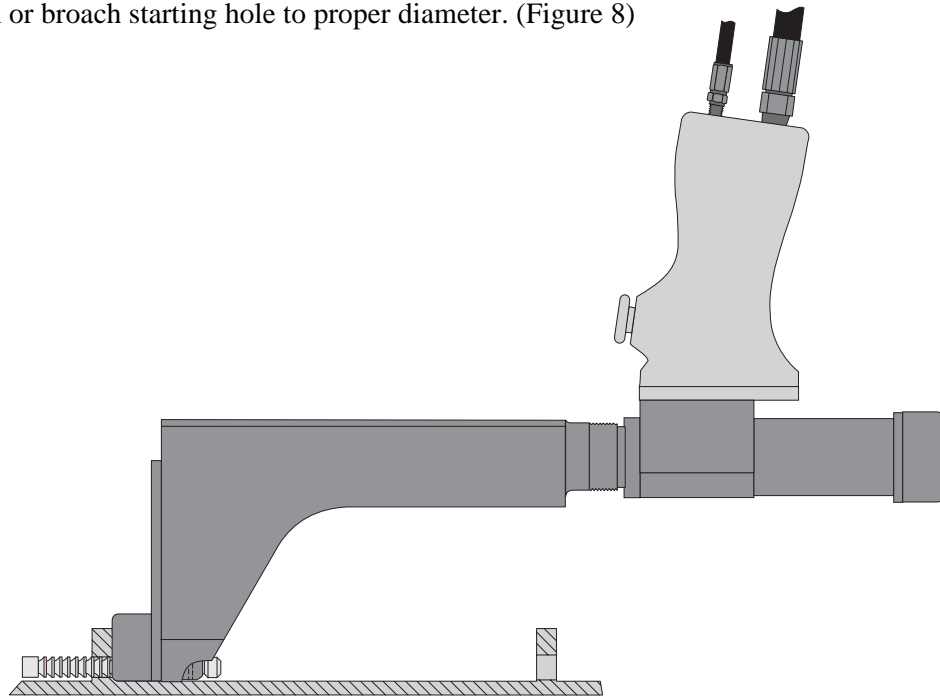

Figure 8
9. Ream or broach starting hole to proper diameter. (Figure 8)